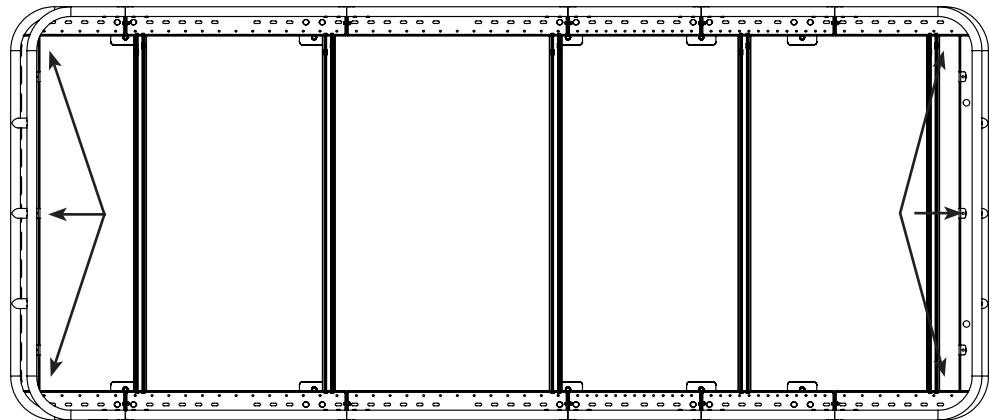

FIG 23
10.1 Attach Clip Nuts to Baskets: Install the Clip Nuts to the Front and Rear Basket locations as shown in FIG 23.